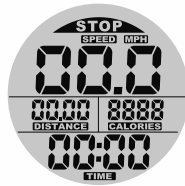

Figure 5
- (2) In the **STOP** mode, press the **MODE** button to set up **TIME** (0:00~99:00), **DISTANCE** (0.00~99.90), and **CALORIES** (0~9990). The blinking function is for presetting (figure 5). Press the **SET** button to set each target. Press the **RESET** button to clear the function value to zero.
- (3) In the **STOP** mode, press down the **RESET** button for 2 seconds to make all function values **RESET**.